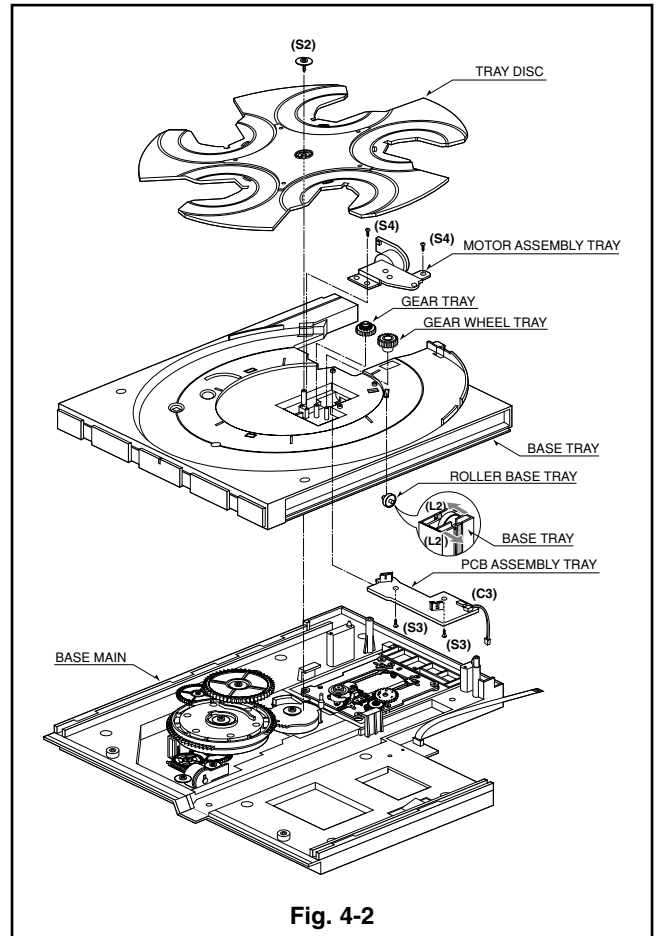

Fig. 4-2
- 2-1. Tray Disc(Fig.4-2)2-3
2-1. Tray Disc(Fig.4-2)